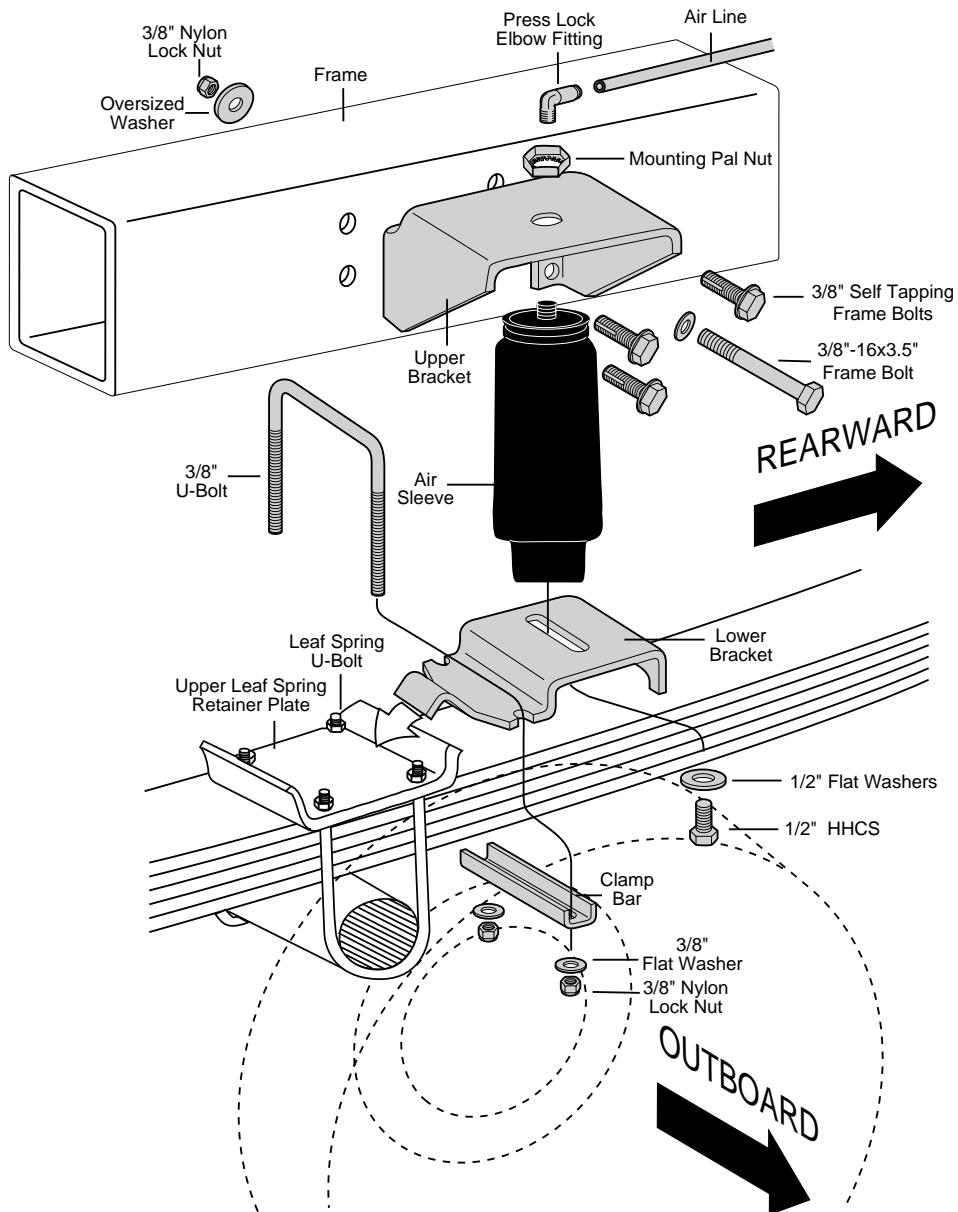

Figure 1
Figure 1 represents a TYPICAL installation. Your vehicle may look slightly different due to make, model or year.
2. LOOSELY attach the lower bracket to the bottom of the sleeve. Using the provided 1/2" flat washer and the 1/2" HHCS bolt as shown in Figure 1.
3. Now attach the lower bracket to the leaf spring as shown in Figure 1. The bracket will locate over the edge of the spring retainer plate (Figure 1). Tighten nuts to 20 ft-lbs on the 3/8 U-bolt.
5. The driver side (US) will require the use of three 3/8 self tapping frame bolts (Figure 1). Drill 5/16" holes to install these bolts. The fourth bolt (Lower, rear hole) is a 3/8-16x3.5" frame bolt that will go all the way through the frame attached by a washer and locknut on the other side and tightened to 20 ft-lbs. Drill a 3/8" hole for this bolt (Figure 1).